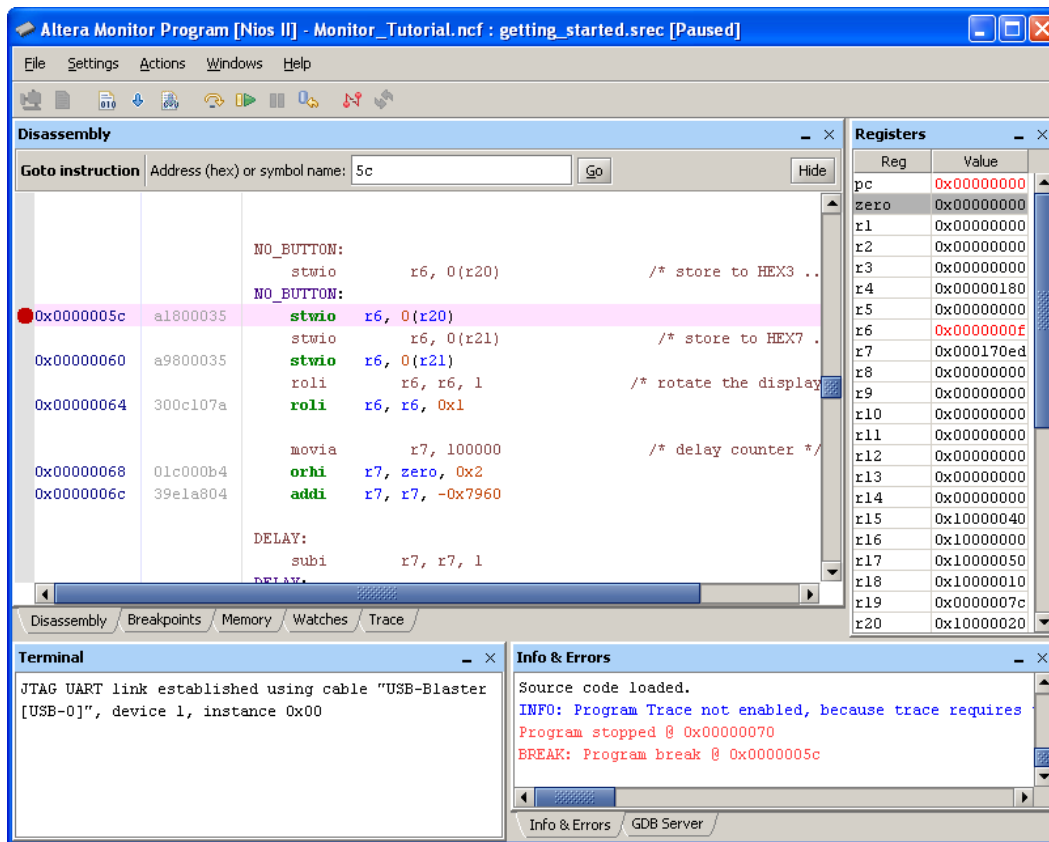

Figure 20. Setting an instruction breakpoint.
2. Click on the gray bar to the left of the address 0000005c in the Disassembly window. As illustrated in Figure 20 the Monitor Program displays a red dot next to the address to show that an instruction breakpoint has been set. Clicking the same location again removes the breakpoint.